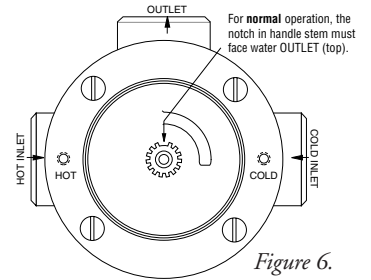

Figure 6.
24. (Figure 6) Place the graphic insert into the cover plate, slide the brass sleeve over the stem and fit the rubber retainer inside the edge of the cover plate hole.
25. (Figure 6) Place the tri-handle over the stem, and secure with retaining washer and screw using the 3/32" wrench (included). Snap the button plug into place.
- a. The supply water inlets may be reversed, or the mixing plate orientation may be incorrect. Refer to Figure 6.